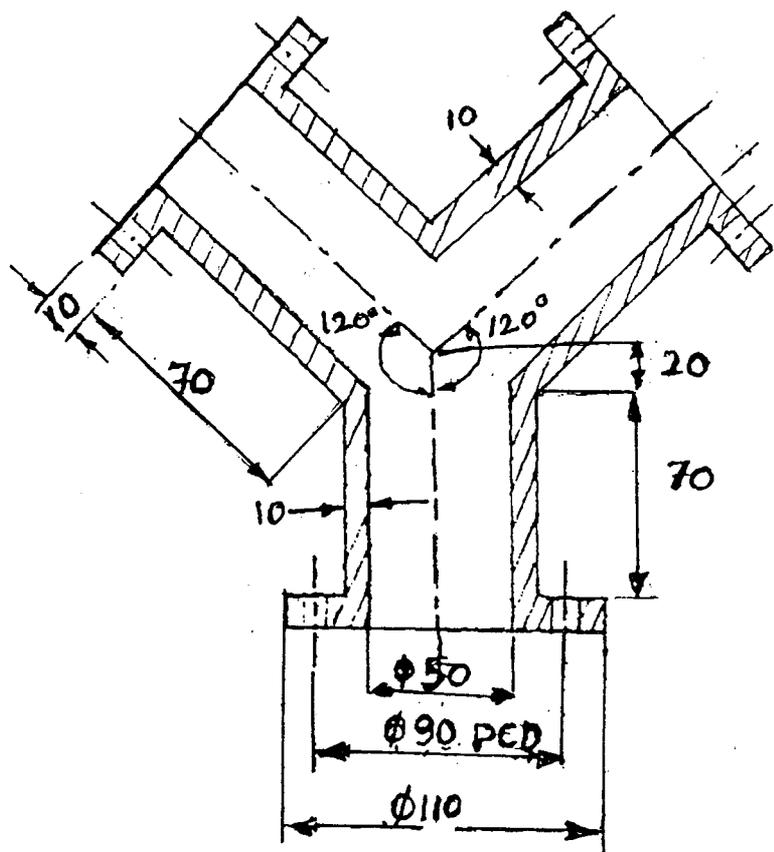

Fig. 1 Y Flange
11. (a) Design and draw any two views of a jig for drilling 4 holes of diameter $\phi 4$ mm at 90 mm PCD on the 3 sides of a 'Y' flange as shown in Fig. 1. Prepare part list and number the parts.